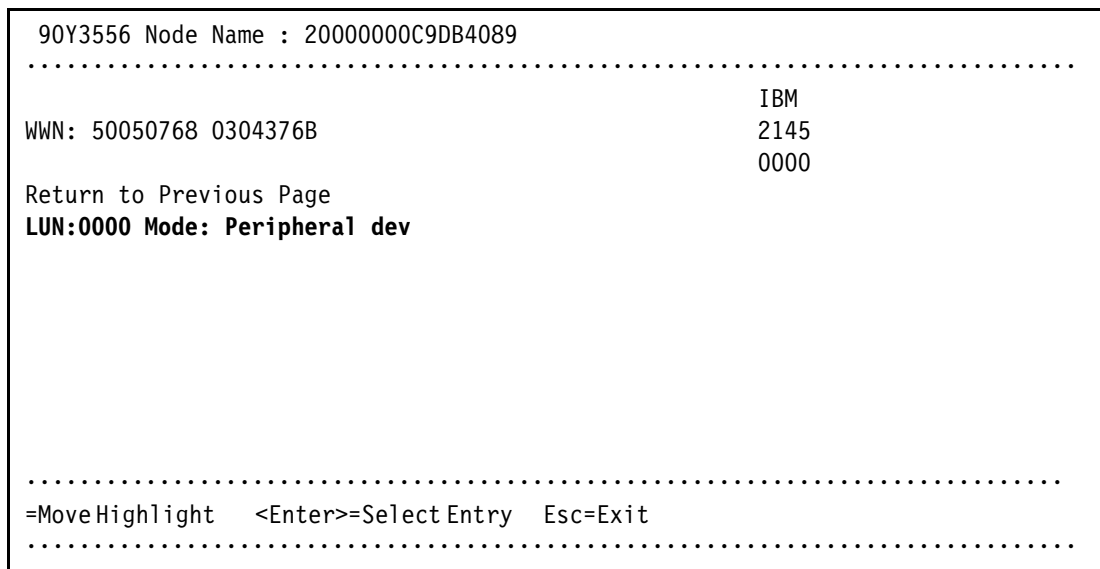

Figure 9-31 Selecting the LUN (LUN 0) to boot from
16. Select the LUN you want to boot from, and then press Enter (Figure 9-31).